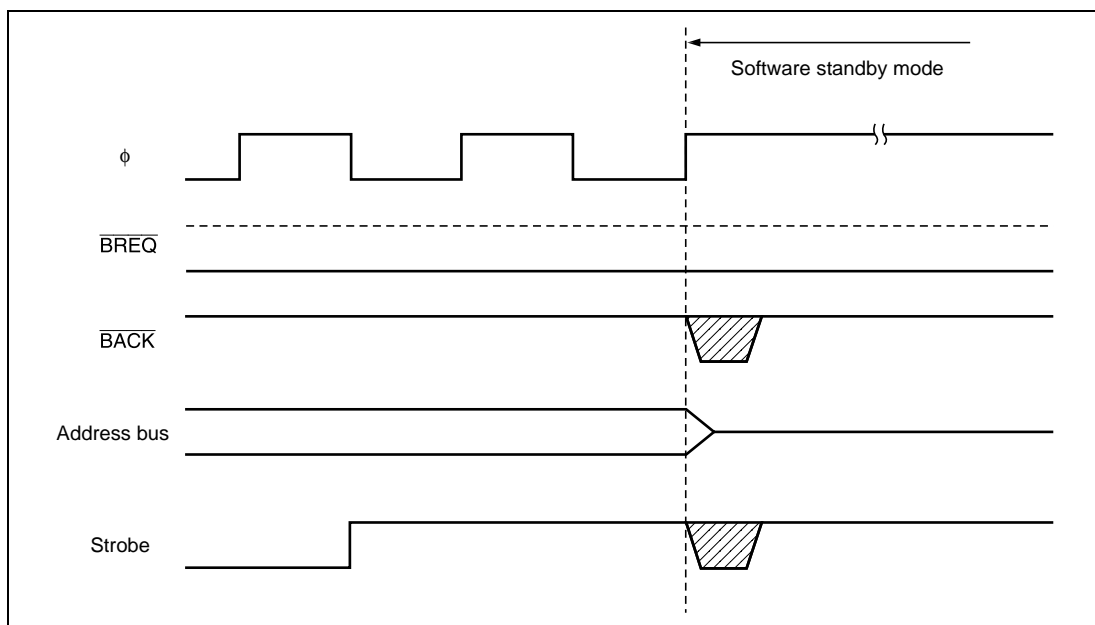

Figure 6.36 Bus-Released State and Software Standby Mode
- In the event of contention with a bus request from an external bus master when a transition is made to software standby mode, the $\overline{\text{BACK}}$ and strobe states may be indeterminate after the transition to software standby mode (see figure 6.36).